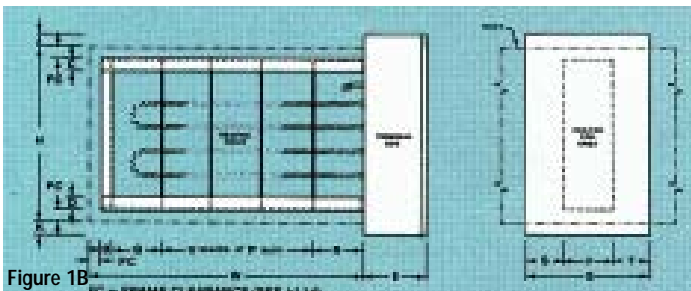

Figure 1B
**SLIP-IN HEATER**—standard and by far the most widely used because of the ease of installation; see 1A and 1B. When built-in controls are specified in a slip-in heater, they are usually mounted in the left-hand overhang (S dimension in Figure 1B). If right-hand overhang is desired, specify S dimension to be 1", T dimension as required.